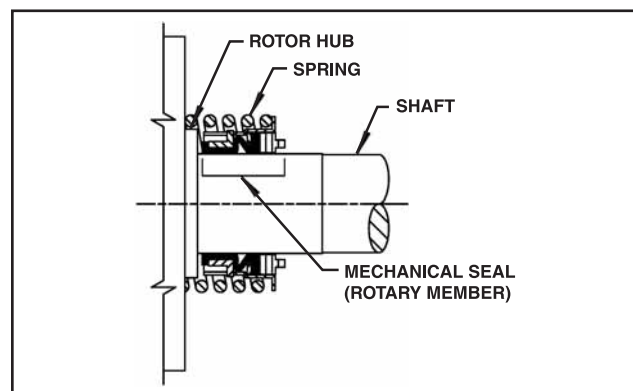

Figure 28
5. Place seal spring on the shaft against the rotor hub. Refer to Figure 28.